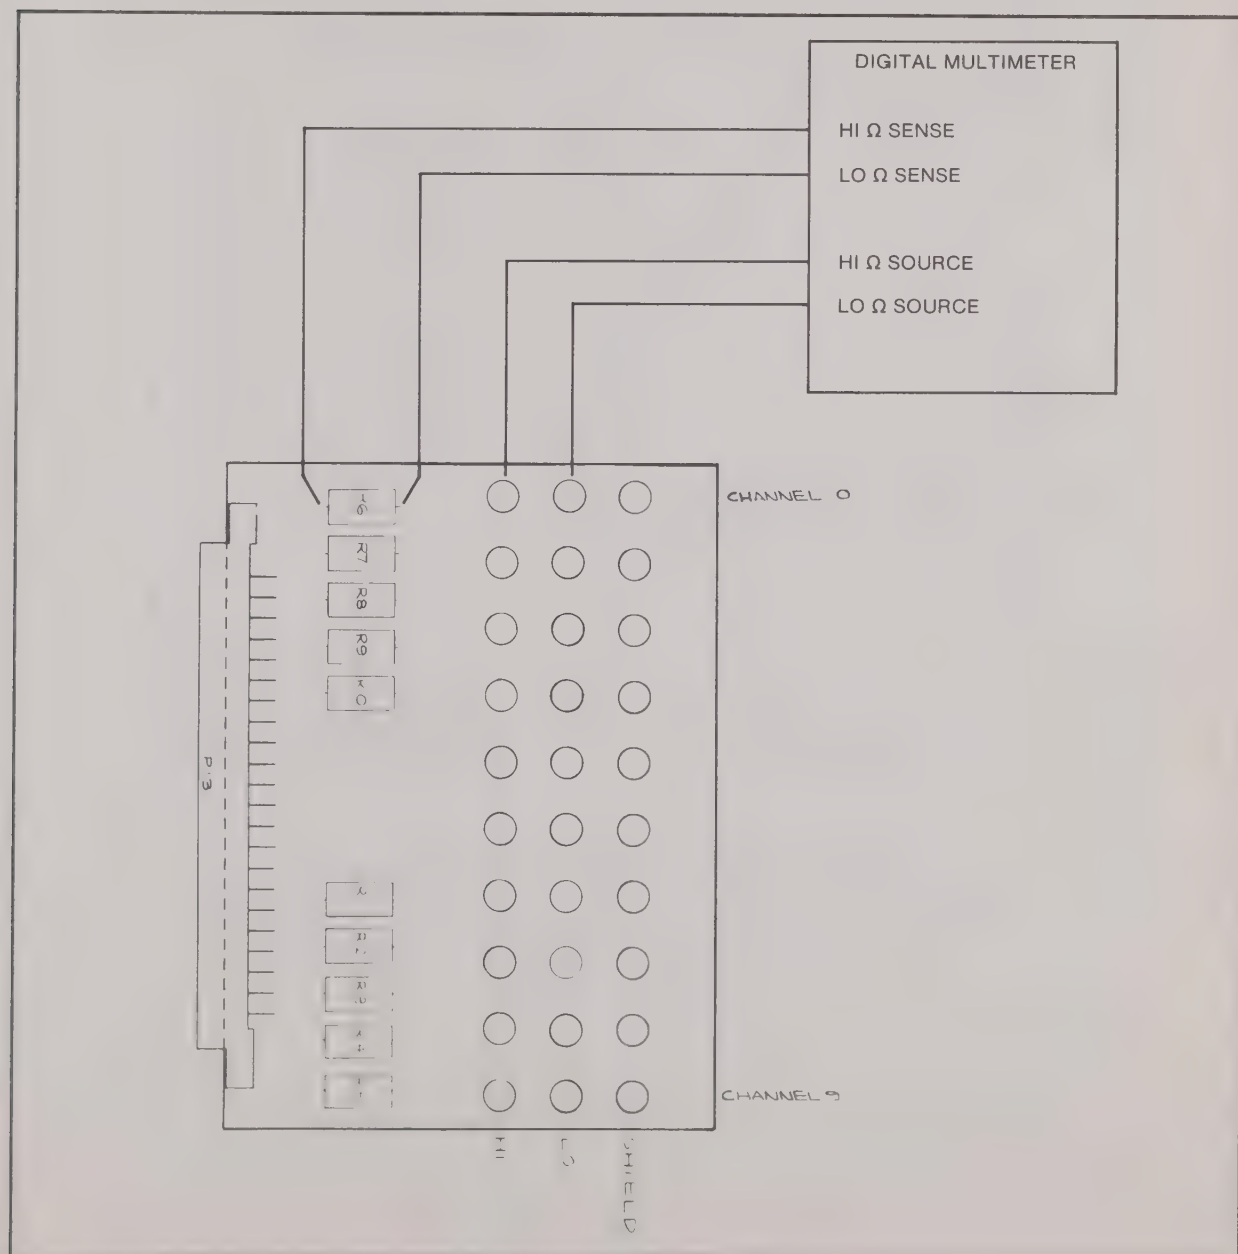

Figure 628-3. Equipment Connections for Shunt Resistor Accuracy Check
- Connect the digital multimeter OHMS SOURCE leads to CH0 HI and LO terminals as shown in Figure 628-3.
- Connect the digital multimeter HI and LO OHMS SENSE leads to the terminals of resistor R6. Be sure the HI and LO OHMS SENSE leads are connected to the proper terminal of the resistor as shown in Figure 628-3.